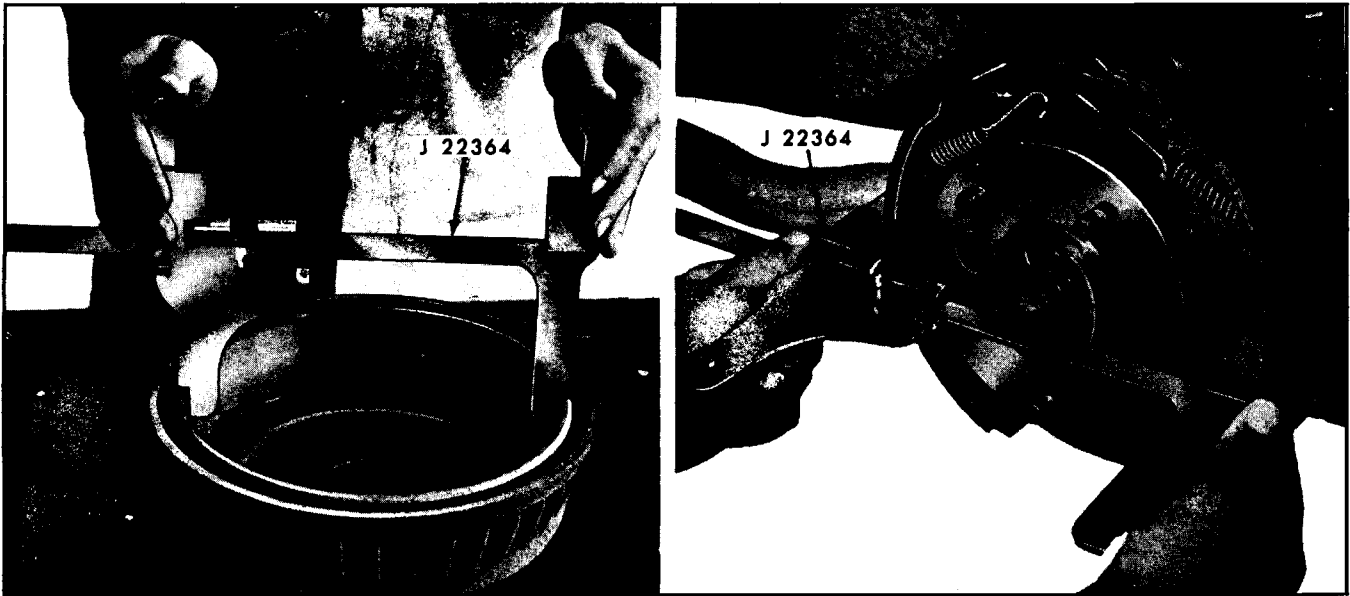

Fig. 5-7 Gauging Shoe to Drum Clearance
2. Remove ridge at open end of drum with #40 grit sandpaper, or equivalent. Using tool J 22364, adjust tool to diameter of drum, then adjust brake shoes to fit opposite side of tool (Fig. 5-7).